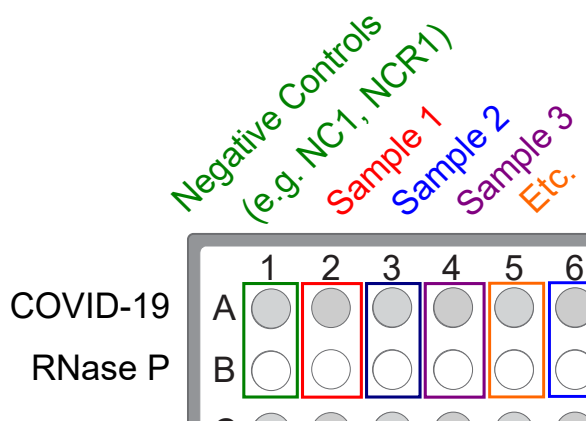

Figure 6 Paired sample and Negative Control wells for each assay
- Unseal the extraction plate, then add Negative Control from the single well of the extraction plate to wells A1 and B1 of the reaction plate, as shown in Figure 6 on page 63.